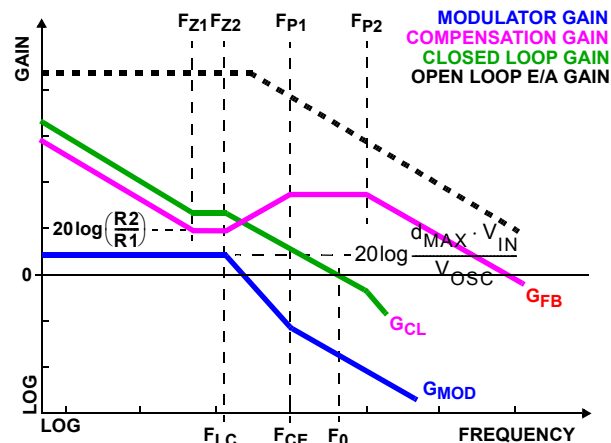

FIGURE 27. ASYMPTOTIC BODE PLOT OF CONVERTER GAIN
Figure 27 shows an asymptotic plot of the DC/DC converter's gain vs frequency. The actual Modulator Gain has a high gain peak dependent on the quality factor (Q) of the output filter, which is not shown. Using the previously mentioned guidelines should yield a compensation gain similar to the curve plotted. The open loop error amplifier gain bounds the compensation gain. Check the compensation gain at F_{P2} against the capabilities of the error amplifier. The closed loop gain, G_{CL} , is constructed on the log-log graph of Figure 27 by adding the modulator gain, G_{MOD} (in dB), to the feedback compensation gain, G_{FB} (in dB). This is equivalent to multiplying the modulator transfer function and the compensation transfer function and then plotting the resulting gain.